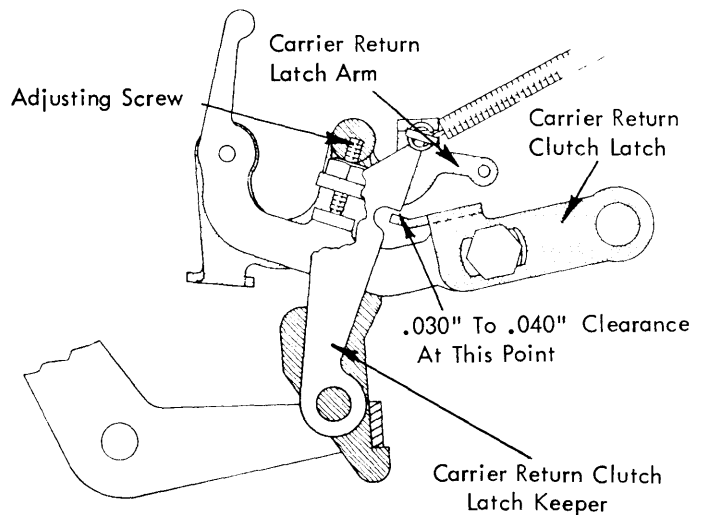

FIGURE 132. Clutch Latch Overthrow Adjustment (721)
3. Clutch Latch Overthrow (721 only) - With the platen and feed rolls installed and the index selector lever set in the double index position, manually operate the carrier return cam to the high point while observing the motion of the clutch latch. It should overthrow the latching surface of the keeper by .030" to .040" (Fig. 132). Adjust the carrier return latch arm adjusting screw to obtain this condition.